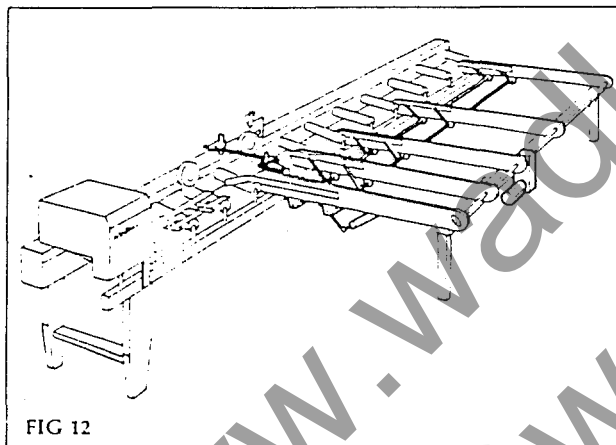

FIG 12
- Fig 12 Drive to chain driven feedworks
Feeding at very high feed speeds, typically on flooring, cladding etc, also presents problems to the operator, again a special feeding device. (Fast feed table, Fig 12) can be provided.